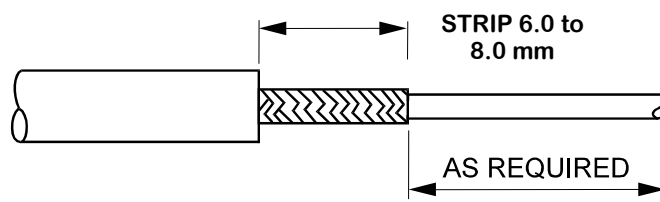

Figure 3-28
- b. For end stripped cables rated above 125°C, prepare as per dimensions illustrated in Figure 3-28.